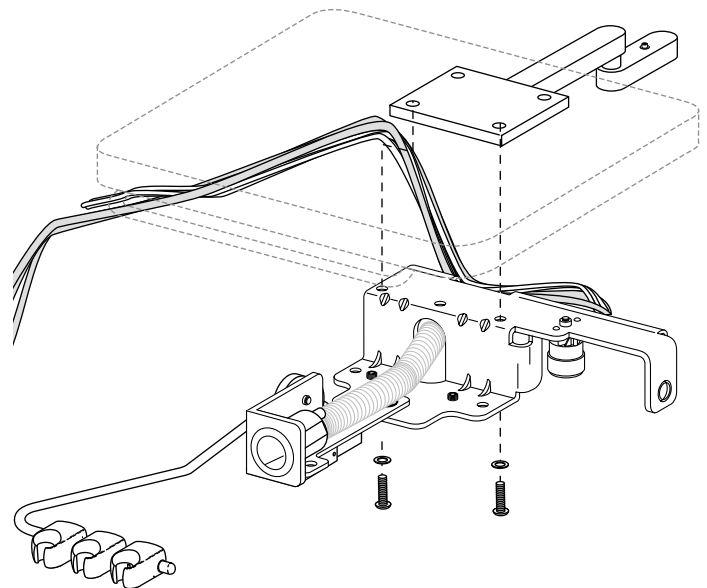

FIGURE 9
- Using the two screws and washers, install the delivery system assembly to the work surface (see Figure 9).